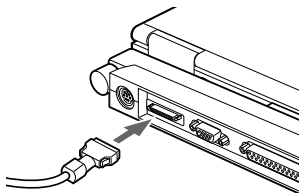

Figure 5-7 Installation of an External Floppy Disk Drive
1. Align the connector of the external floppy disk drive with the connector towards the rear of your Port Replicator with the wide side of the connector down. (Figure 5-7.)
1. Squeeze the releases on the sides of the external floppy disk drive connector next to the Port Replicator together. (Figure 5-7.)